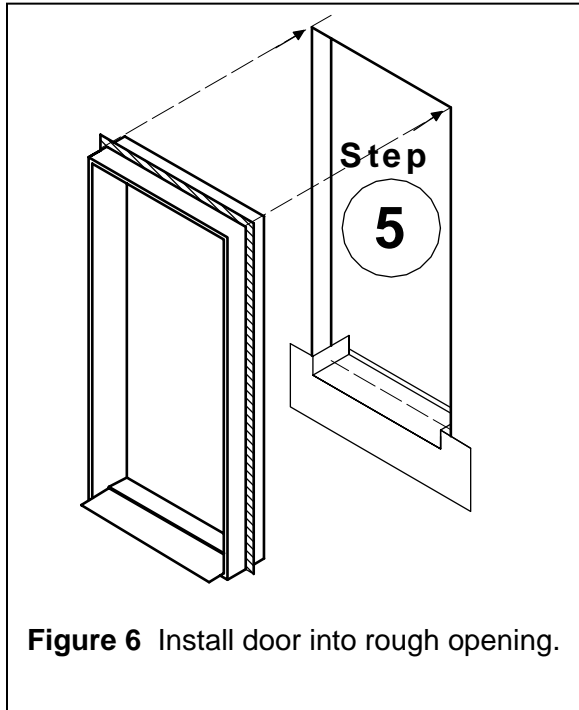

Figure 6 Install door into rough opening.
Step 5. Install door into flashed opening (see Figure 6).